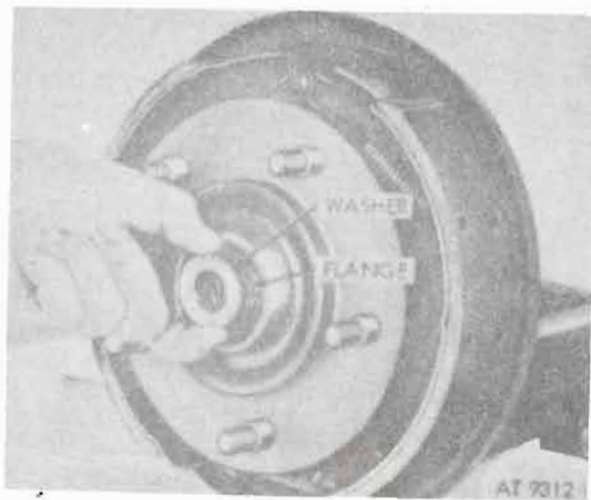

Figure 11-13. Spindle retaining washer.
b. Remove washer from flange shaft (fig. 11-13).